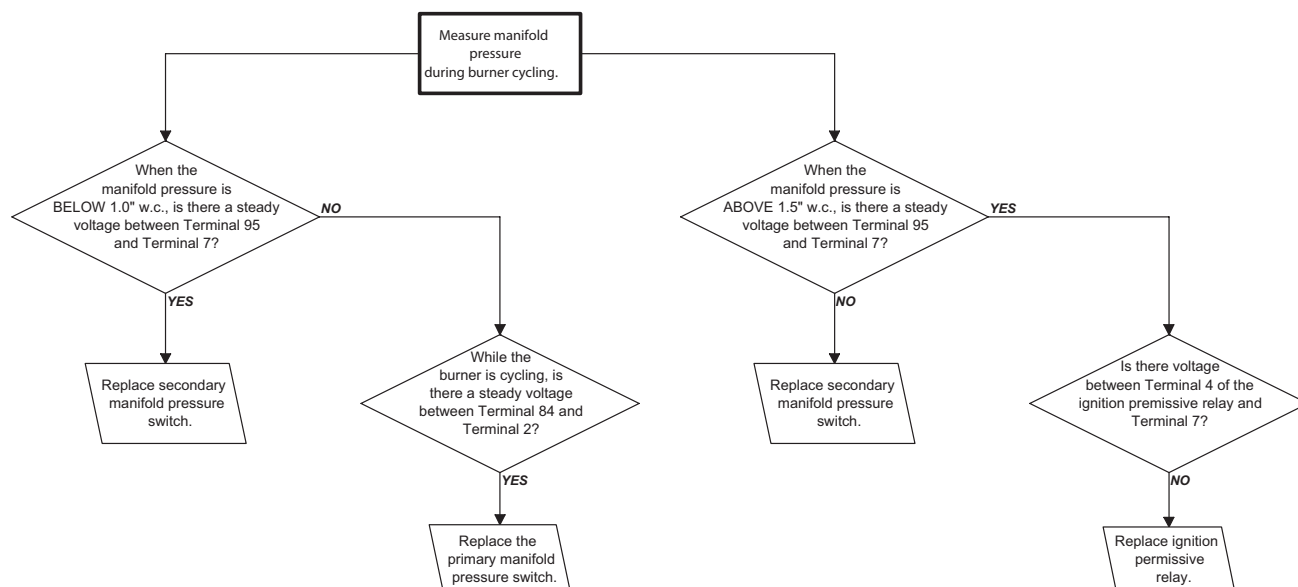

Figure 14. Troubleshooting Guide for Checking Bypass Combustion Air Damper Safety Circuit on Units with Option AG39 or AG40
- This uniquely-designed modulation system requires combustion air pressure settings different from the standard system. Refer to Table 14 for the approximate combustion air proving switch settings at sea-level operation and to Figure 14 for troubleshooting option AG39.
- Refer to Table 15 for option AG40 pressure requirements and to Figure 14 for troubleshooting option AG40.